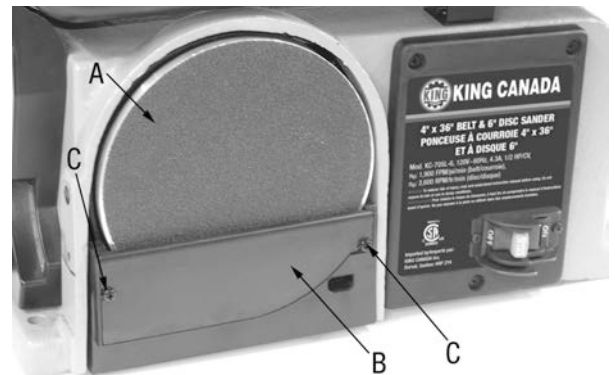

Figure 4
2. Locate sanding disc (A) Fig.4 and peel backing from disc. Align perimeter of disc with plate and press disc firmly into position all the way around.
3. Reinstall disc guard (B) Fig.4, using a Phillips screwdriver, fasten the pan head screws (C) securely applying slight pressure to thread the holes.